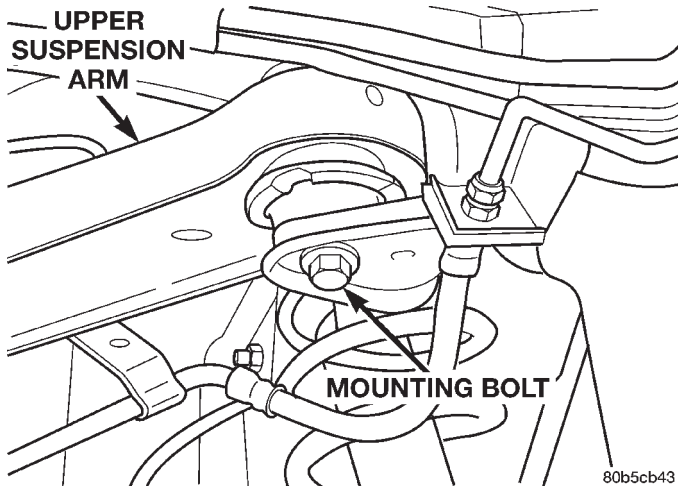

Fig. 10 Upper Suspension Arm Mounting Bolt
- (6) Remove the upper suspension arm mounting bolts and remove the arm (Fig. 10).